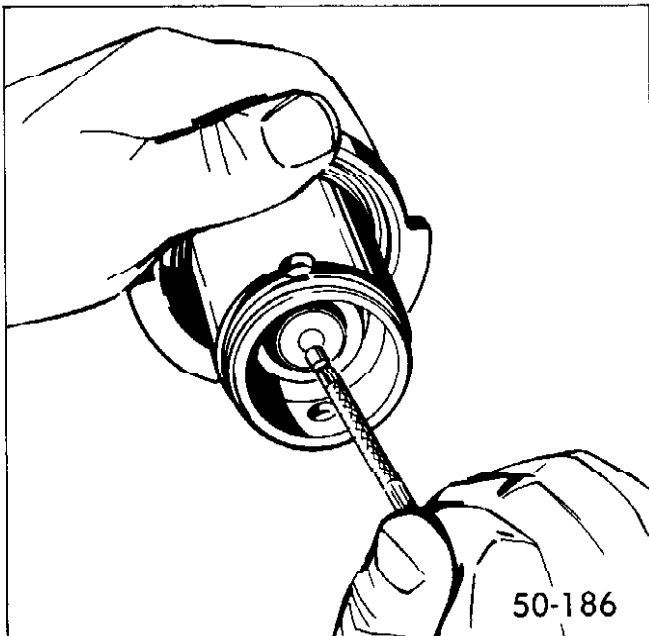

Figure 50-79 Removing Reaction Piston and Reaction Disc From Secondary Power Piston
8. Remove the reaction piston and reaction disc from the center of the secondary power piston by pushing down on the end of the reaction piston with a small object, such as a pencil, wooden dowel, or metal rod. See Figure 50-79.